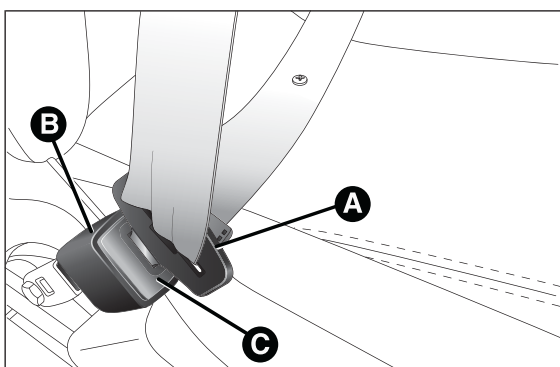

fig. 77
To fasten the seat belts, hold the tongue A fig. 77 and insert it into the buckle B, until it clicks into place. On removal, if it jams, let it rewind for a short stretch, then pull it out again without jerking.
**Never press button C fig. 77 when travelling.**